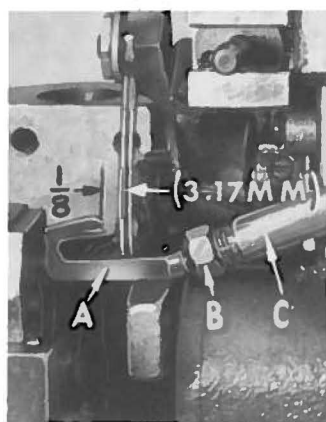

Fig. 4
At this point, insert lower spreader (A, Fig. 4) or lower looper (depending on the Style of machine) into bar (B). With the lower spreader or lower looper at the left end of its stroke, set the spreader point or looper point  $1/8$  inch (3.17 mm) to the left of left needle centerline using looper gauge No. 21225 G- $1/8$ . Do not have lower spreader or lower looper deflecting the needles. Tighten nut (C).